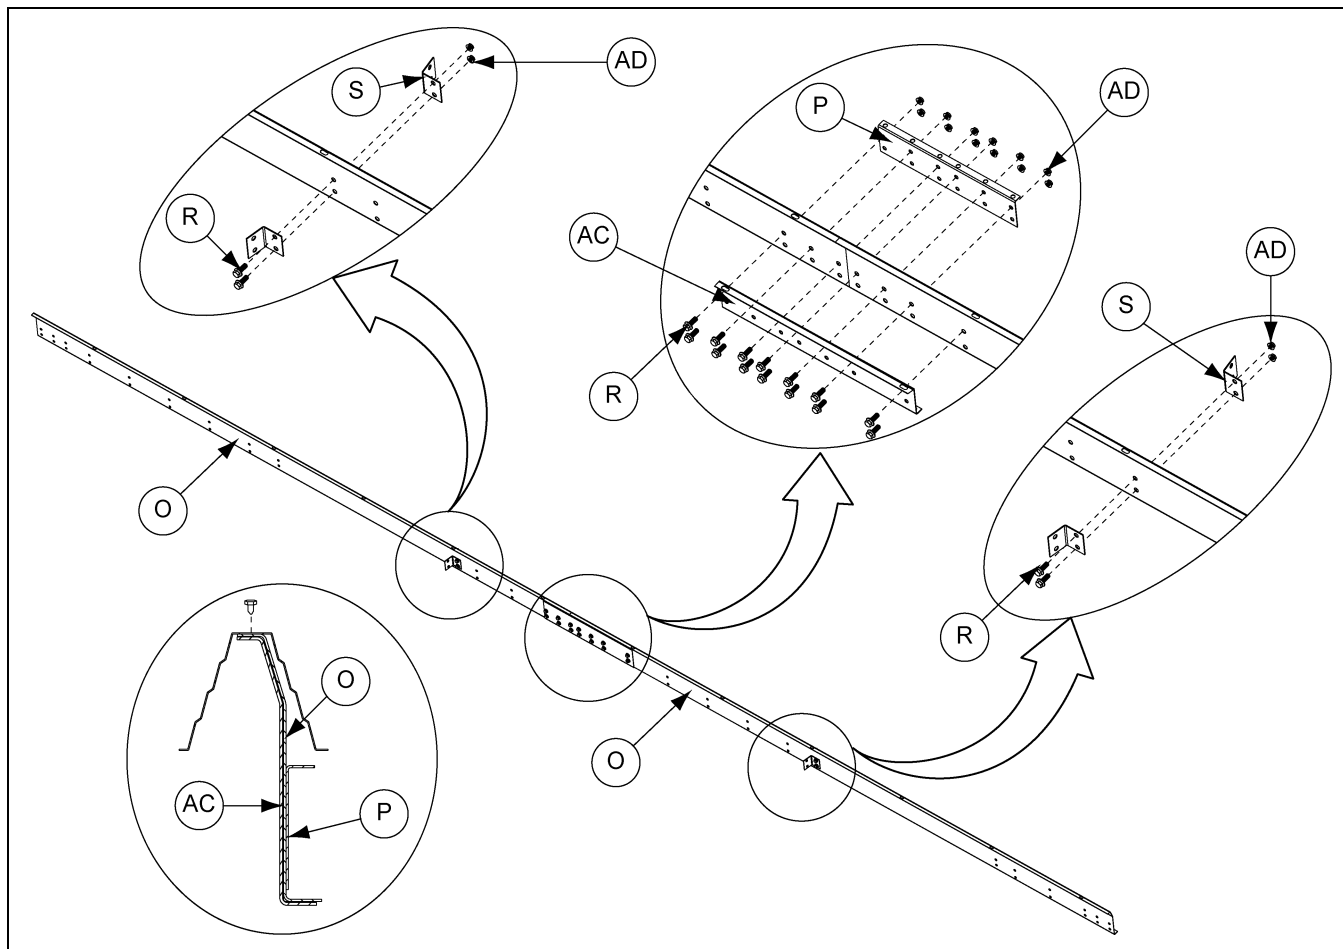

Figure 9M
7. Connect the two (2) roof channels (O) together with the roof channel splices (P and AC) with bolts (R) and nut (AD) as shown in Figure 9M.
8. Install the two (2) purlin clips (S) on the roof channel (O) with the bolts (R) and nuts (AD).